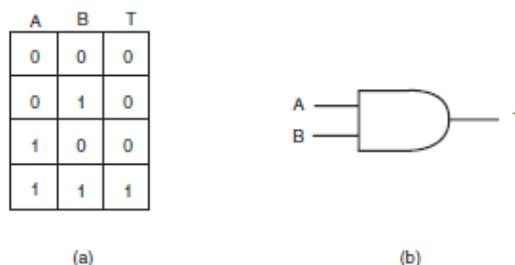

Figure 5-3:a)The truth table for the AND operation & b)the logic symbol of an AND gate
- This performs logical multiplication (Figure 5-3).